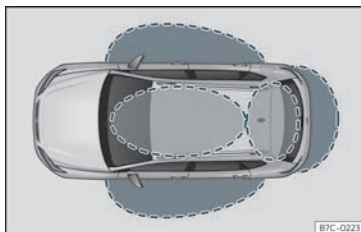
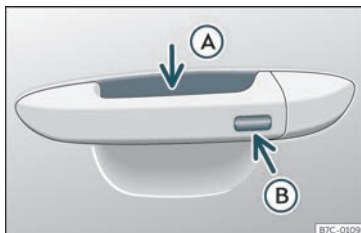

Fig. 71 Keyless Access: proximity zones.
Fig. 72 Keyless Access locking and ignition system
in the detection area where you are attempting to access the vehicle >>> Fig. 71 and to touch one of the sensor surfaces on the door handles >>> Fig. 72 or operate the *softtouch*/handle on the rear lid >>> page 98 >>> .
If a valid key is in the proximity of the car, >>> Fig. 71 the Keyless Access locking and starting system gives the key entry as soon as one of the sensor surfaces on the door handles is touched or the *softtouch*/handle on the rear lid is operated. The following features are then available without having to use the vehicle key actively:
- Grip one of the front door handles. When you do this, you touch the sensor surface >>> Fig. 72 (A) (arrow) of the handle and the vehicle unlocks.
- Touch (*once*) the locking sensor surface >>> Fig. 72 (B) (arrow) on one of the front door handles. The door that is used must be closed.
- Touch (*once*) the sensor surface >>> Fig. 72 (B) (arrow) on one of the front door handles. The vehicle locks with the "Safe" security system >>> page 93. The door that is used must be closed.
- Touch (*twice*) the sensor surface >>> Fig. 72 (B) (arrow) of one of the front door handles to lock the vehicle without activating the "Safelock" security system >>> page 93.
When the vehicle is locked, the rear lid automatically unlocks on opening if there is a valid vehicle key in the proximity >>> Fig. 71.
- Push the central locking button  on the remote control and touch the locking sensor surface of the driver door handle >>> **Fig. 72 B** within the following 5 seconds. Do not grasp the door handle; otherwise the vehicle will not unlock. Deactivation is also possible if the vehicle is locked through the driver's door lock.
To close all the electric windows and the sunroof using the **comfort function**, keep a finger for a few seconds on the locking sensor surface >>> **Fig. 72 B** (arrow) of the door handle until the windows and roof have closed.
The sensor surfaces on the door handles could engage if hit with a water jet or high pressure steam if there is a valid vehicle key in the proximity. If at least one of the electric windows is open and the sensor surface >>> **Fig. 72 B** (arrow) on one of the handles is activated continuously, all windows will close.
- **OR:** touch the sensor surface on the outside of the door handle twice >>> Fig. 72 .